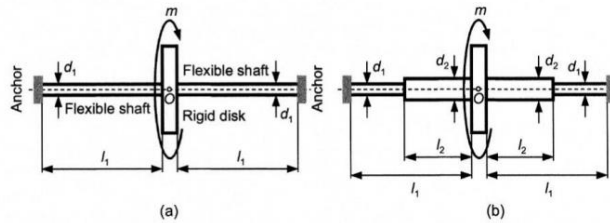

FIGURE 2.38
- 2.4 Two identical elastic shaft segments are connected to a rigid disk acted on by a moment m , as illustrated in Figure 2.38(a). To reduce the rotation angle at O by 40%, the design of Figure 2.38(b) is used instead of the original one. Assuming all shaft segments are built from the same material and have constant circular cross sections, express the diameter d_2 in terms of the diameter d_1 , and the lengths l_1 and l_2 . Also calculate the value of d_2 for $d_1 = 0.012 \text{ m}$, $l_1 = 0.24 \text{ m}$, and $l_2 = 0.16 \text{ m}$.